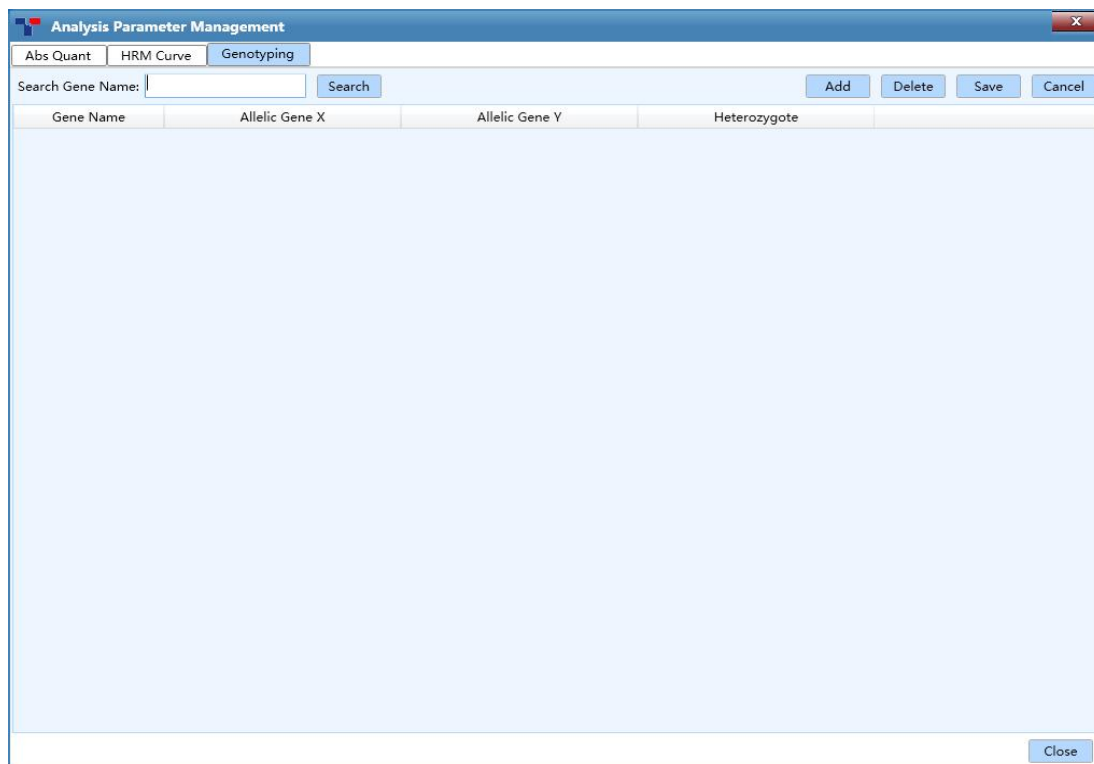

Figure D-3.8c. Parameter Management Interface – Genotyping Curve Tab
- **Genotyping** tab: User can manage the analysis parameters of specific or multiple genes for genotyping experimental results analysis on the **Genotyping** tab, as shown in figure D-3.8c.